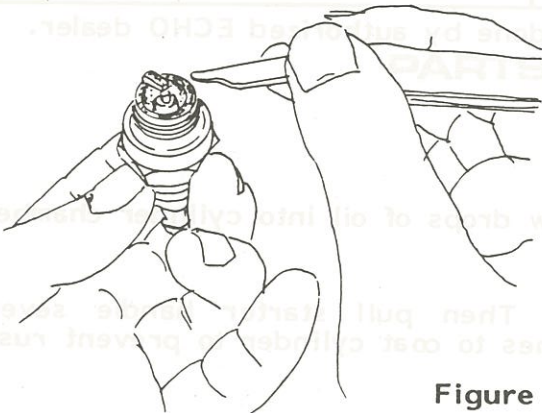

Figure 27
1. Remove spark plug cap and spark plug, and clean it with a fine sand paper if sooty, or carbon is deposited. (Figure 27)